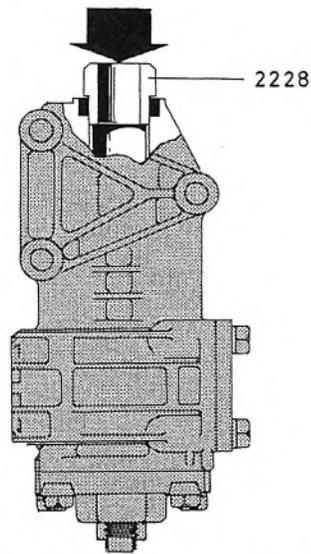
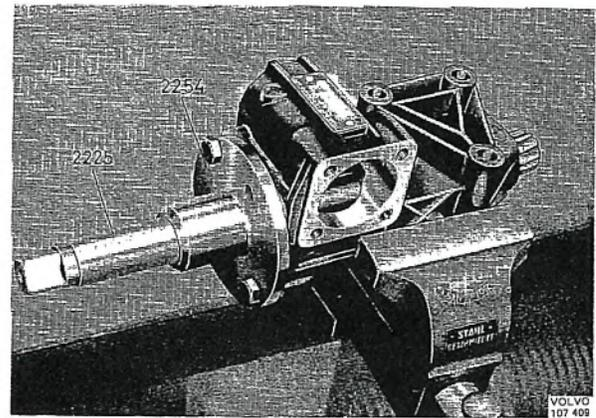

Fig. 6-44. Fitting pitman arm shaft bush
Fig. 6-45. Reaming pitman arm shaft bushed
1. From each direction press in the pitman arm shaft bushes with drift 2228 and standard handle 1801, see Fig. 6-44. Ream the bushes with reamer 2225. Use tool 2254, which is fixed to the housing by means of two bolts, see Fig. 6-45. Clean the housing carefully from metal filings after reaming.